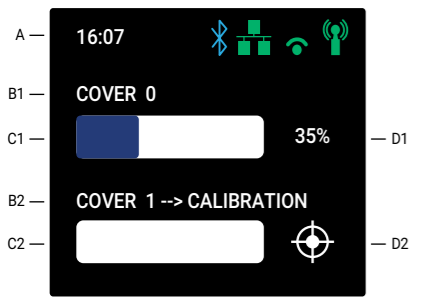

fig.3
**Display (Fig. 3)**
The top bar (Fig. 3 A) of the LCD shows brief status information:
The main part of the LCD depicts the status of the two covers. Each cover is represented by a name (Fig. 3 B1/B2), a slider (Fig. 3 C1/C2), and a notification area (Fig. 3 D1/D2). The cover names can be changed in the Device settings. The sliders visualize the position of the covers. The notification areas contain the position of the covers in percentage (Fig. 3 D1) or an icon (Fig. 3 D2) indicating an event (calibration, obstruction, overvoltage, overtemp, or overpower). The events are also transcribed next to the cover names (Fig. 3 B2).